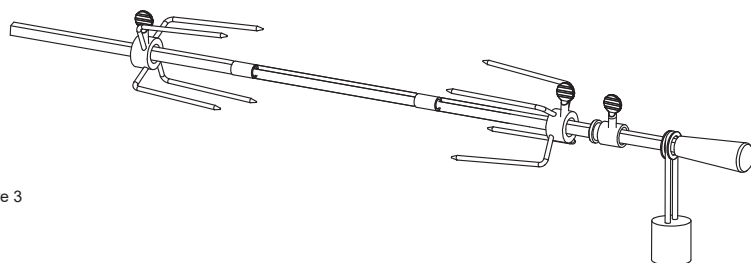

Figure 3
- Step 4: Slide the Locking Collar, do not tighten the Locking Collar Ratchet Screw until the Rotisserie is placed into your grill. Screw the handle onto the threaded end of Rotisserie Spit as shown in Figure 3.